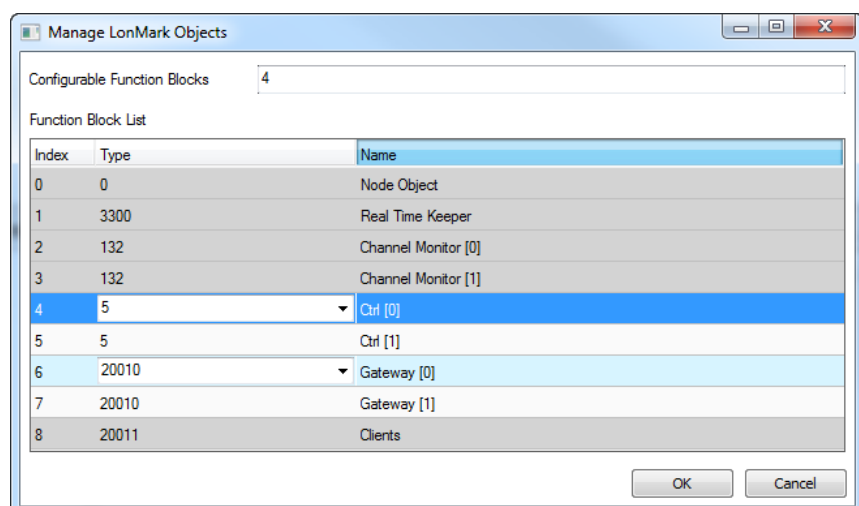

Figure 195: Manage LONMARK Objects.
1. Select the menu **Tools** → **Manage LonMark Objects ...**. The dialog **Manage LonMark Objects** as shown in Figure 195 appears.